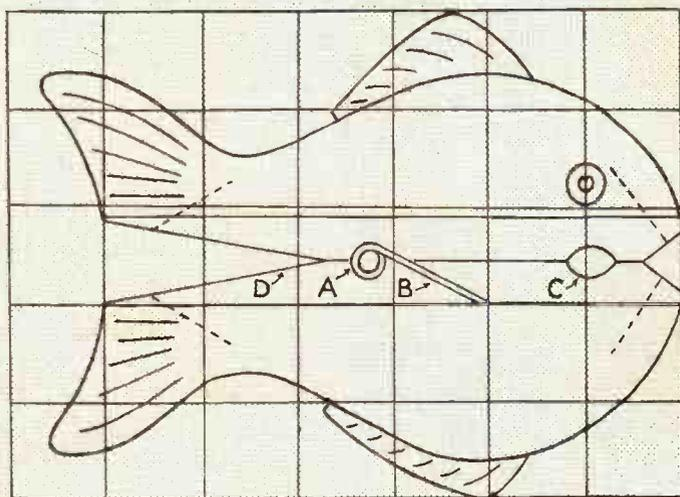
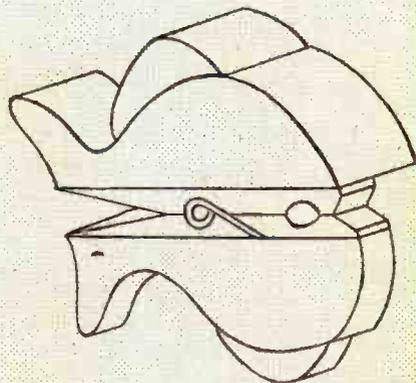

Fig. 1—Draw fish on pattern of $\frac{1}{2}$ " squares. Dotted lines indicate position of nails. A.B.C.D. refer to instructions for cutting cover pieces.
Fig. 2—Showing the position of shaped pieces on the peg.
The floats are made from standard five-ply, and are the same size. They can be cut from a sheet with a hand saw and bolted to the arms as shown in Fig. 2. The floats should be liberally coated with shellac before the first trip.
Secure these shaped pieces to the peg with glue, their fronts fitting flush with the side of the peg, Fig. 2. The surfaces which are glued must be level to ensure a strong joint. Drive in four $\frac{1}{4}$ in. fretwork nails where indicated by the dotted lines in Fig. 1. A wedge inserted near the spring coil will open the peg sufficiently for this to be done with a hammer and punch. Drill holes for the nails to prevent the peg splitting.
Draw the two parts of the fish on a thin cardboard pattern of $\frac{1}{2}$ in. squares, omitting the middle part representing the peg (Fig. 1). Cut them out, and, placing the top half on a piece of wood $1\frac{1}{2}$ in. thick, draw round the outline with a pencil. Cut out with a heavy duty fretsaw blade. Follow the above instructions for the bottom half, using wood which is $\frac{3}{8}$ in. thick. Smooth thoroughly with glasspaper.
half of the peg. When cut out, these paper patterns are secured to the fish with strips of Sellotape. The outline of the coil (A), the arm (B), the mouth (C), and the tail opening (D), (Fig. 1) will appear through the tracing paper. Mark these carefully on the paper with a pencil. Remove the paper, and complete the cutting out. Glue the paper patterns to thin cardboard, and cut them out to make the cover templates. Lay the tem-